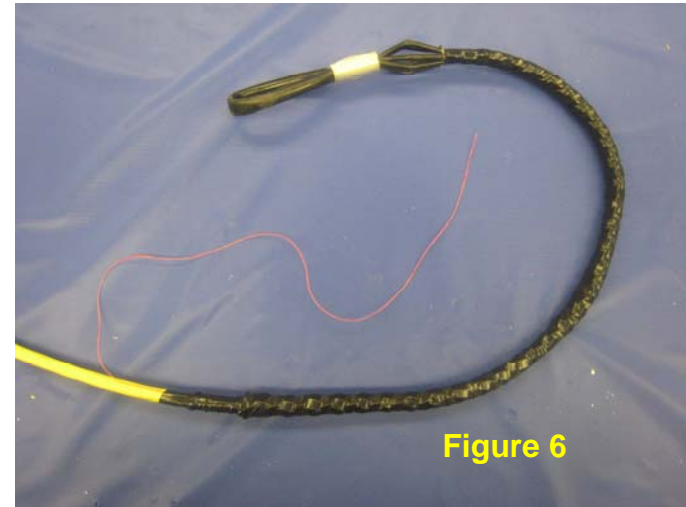

Figure 6
7. Your completed pulling grip installation should appear as shown in Figure 6. The purpose of the rip cord is to enable rapid removal of the pulling grip following the cable pull. Simply pull the rip cord towards the cable end. This will cut the electrical tape. The cable will be ready for final installation.